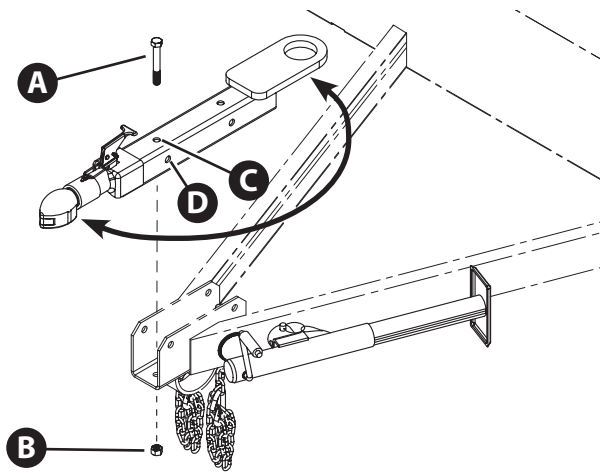

Figure 3.1
2. Remove the two hex head screws (**A**, Figure 3.1) and lock nuts (**B**) securing the tubular portion of the lunette eye to the tongue. Discard the lock nuts. Do not remove the two hex head screws and lock nuts securing the trailer coupler to the lunette eye.
4. Insert the two hex head screws removed in Step 1 through the appropriate holes in the tongue and through the holes in the tubular portion of the lunette eye (**C**, **D**, Figure 3.1).